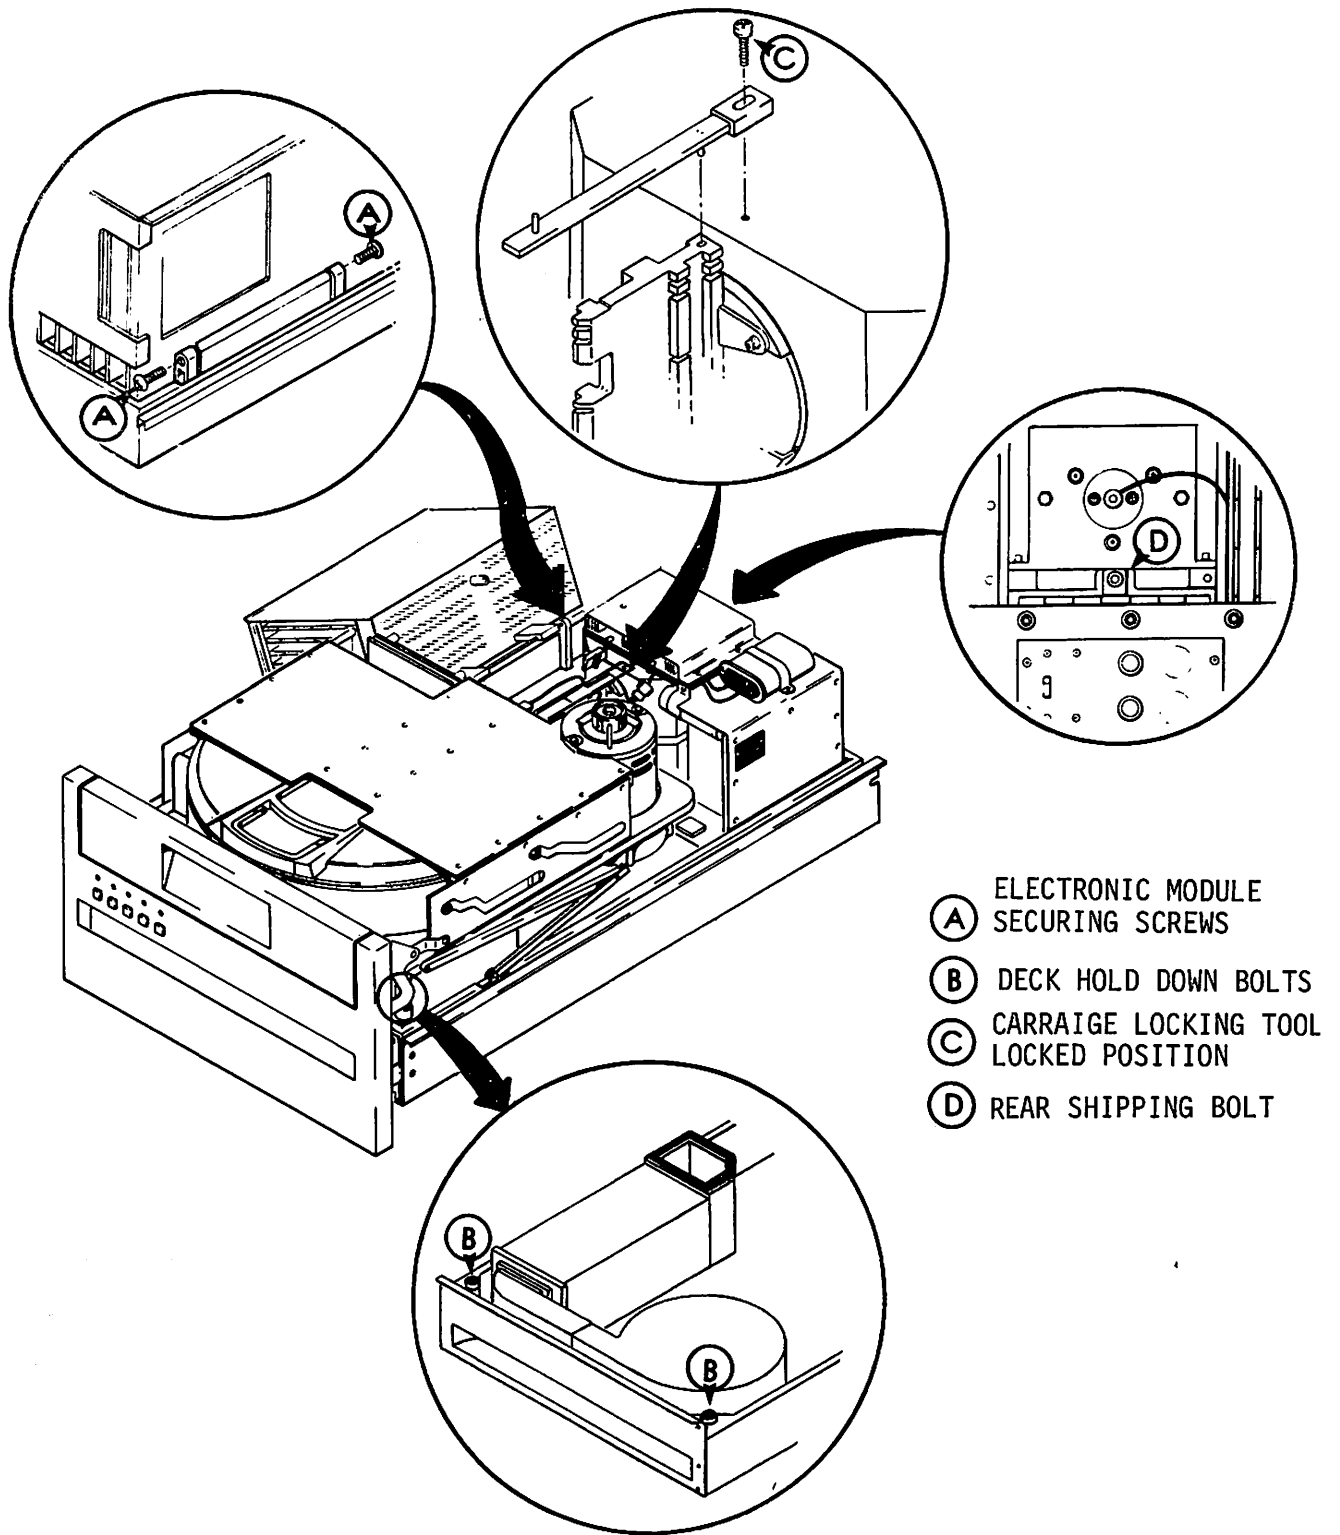

FIGURE 2-4 UNPACKING - (SECUREMENT AREAS)
- A. Remove the top dust cover (See section 2.4) and inspect various items such as circuit boards, carriage assembly, and read/write heads for shipping damage. See Figure 2-4.
- A. Using a 3/16 inch hex driver remove the two screws "B" which secure the deck casting to the shock mounts at the front of the unit. (Figure 2-4) Make sure rear shipping bolt and spacer have been installed so that the weight of the deck does not shear the rear shock mounts. (Figure 2-6)